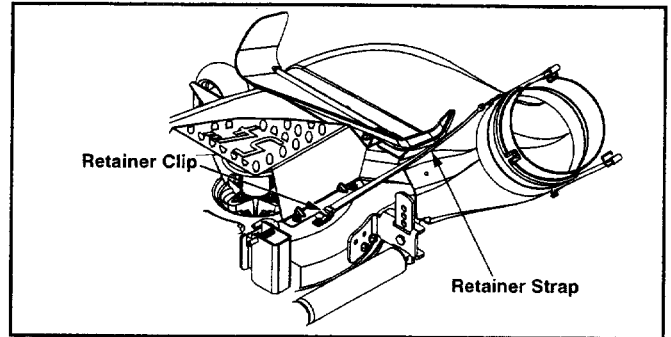

Figure 5
- Fasten the discharge chute in position by hooking the retainer strap over the retainer clip on the top rear of the deck, Figure 5.